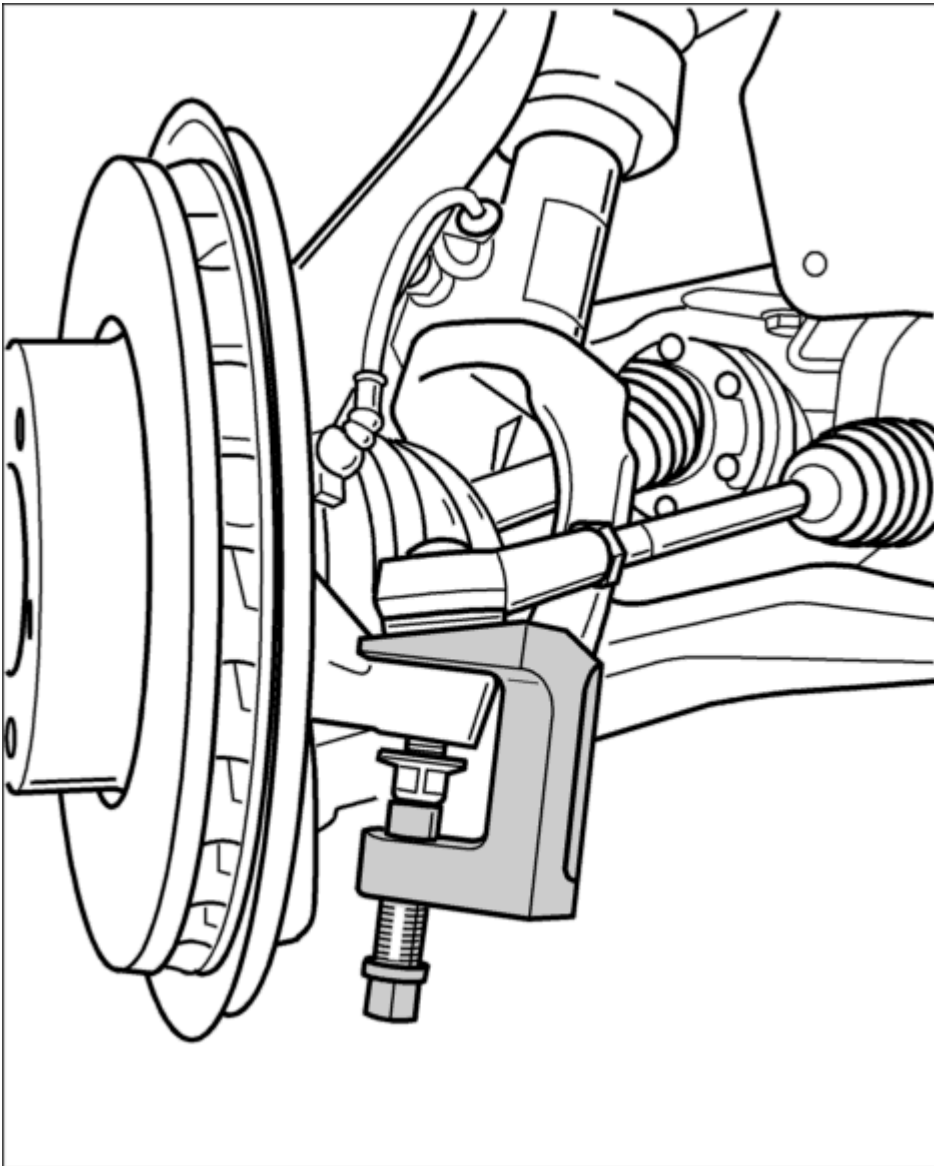

Fig. 90: Removing outer tie rod joint
13. Remove the relevant outer **-figure-** tie rod joint using the **press-out tool T10187**. When pressing out, screw fastening nut on flush (this protects the ball joint thread). See **Fig. 90**.